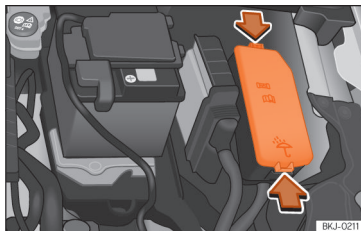

Fig. 49 In the engine compartment: fuse box cover.
- Press the locking tabs to release the fuse box cover » **Fig. 49**.